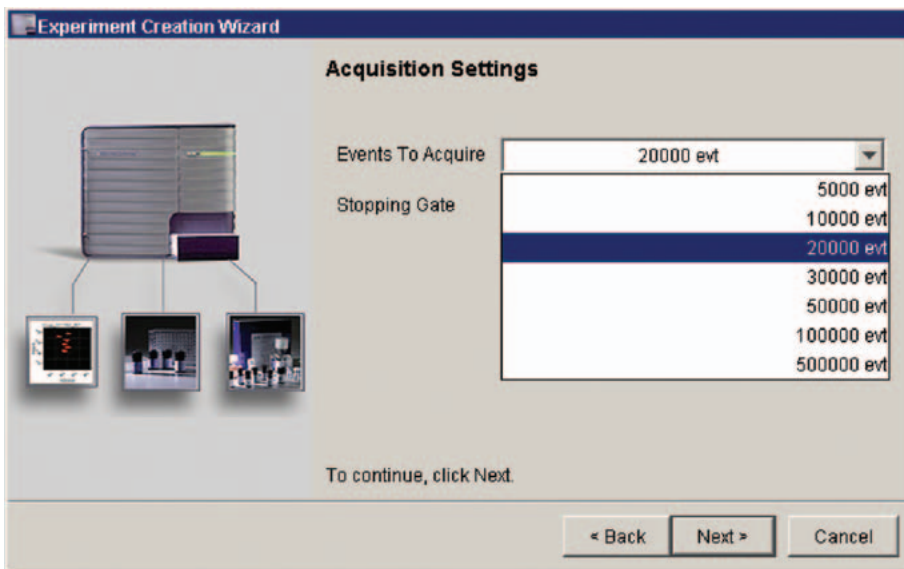

Figure 9
- The Acquisition Settings view appears, (*Figure 9*) where you can choose how many events per well to acquire and whether to use a stopping gate.